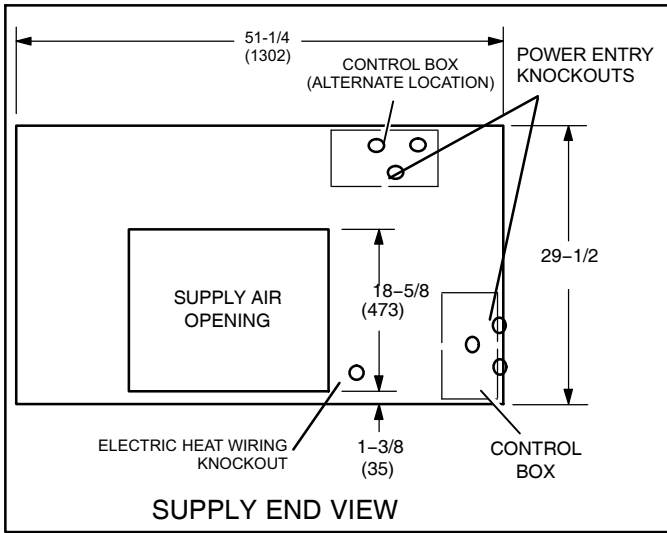

Figure 1. TAA 072 and 090 Knockout Location - Dimensions - inches (mm)
4. Remove the blower coil knockout located beside the supply air blower opening as illustrated in figures 1 through 3.